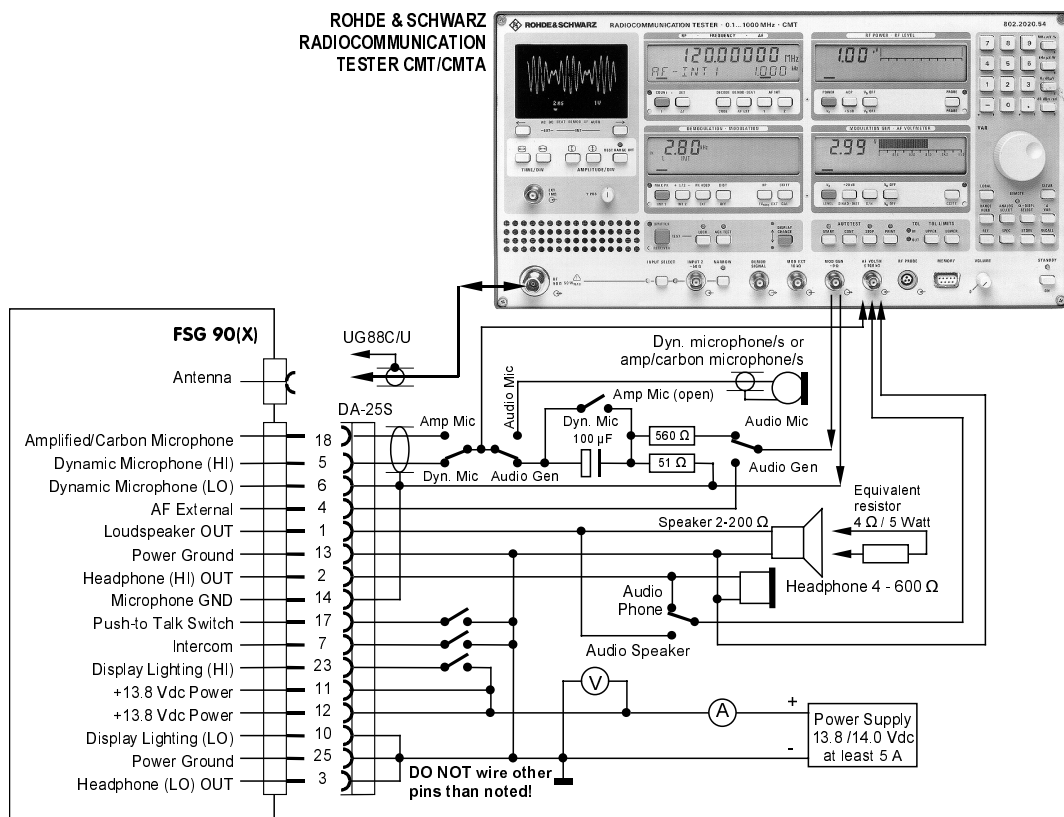

Fig. 3-1: **FSG 90 System**
- Interconnect the radio with a test wiring harness (according to figure 3-1) to the test bench setup. For **FSG 90** set supply to 13.8 Vdc at radio input terminals. For **FSG 90-H1** set supply to 14.0 Vdc at radio input terminals. Turn ON the radio with the ON/OFF-VOL switch on front panel. Switch OFF the Squelch (push **SQ** button).